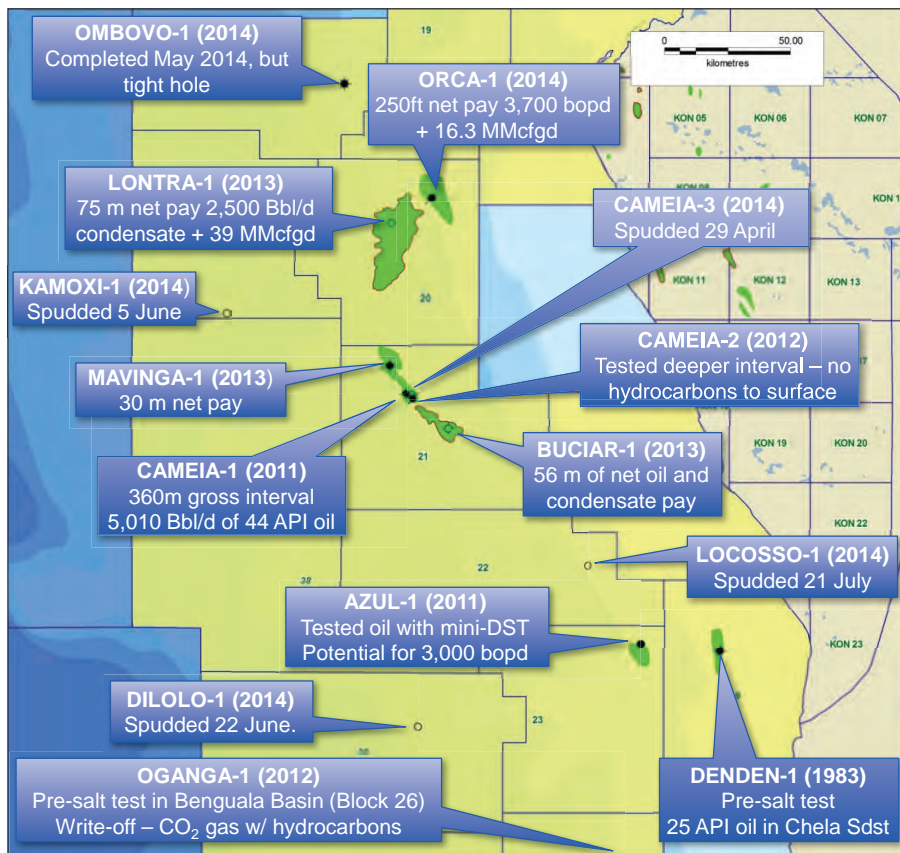

Fig. 3: Kwanza Basin activity. Source: Deloitte Petroview.
-2, -3, Buciar-1, Mavinga-1, Lontra-1 and Orca-1). Operators in other Kwanza Basin blocks awarded in 2011 have now also started drilling, with wells completed or underway by Eni, Repsol, ConocoPhillips and Statoil (see Fig. 3) and a further 5-6 exploration wells planned this year.